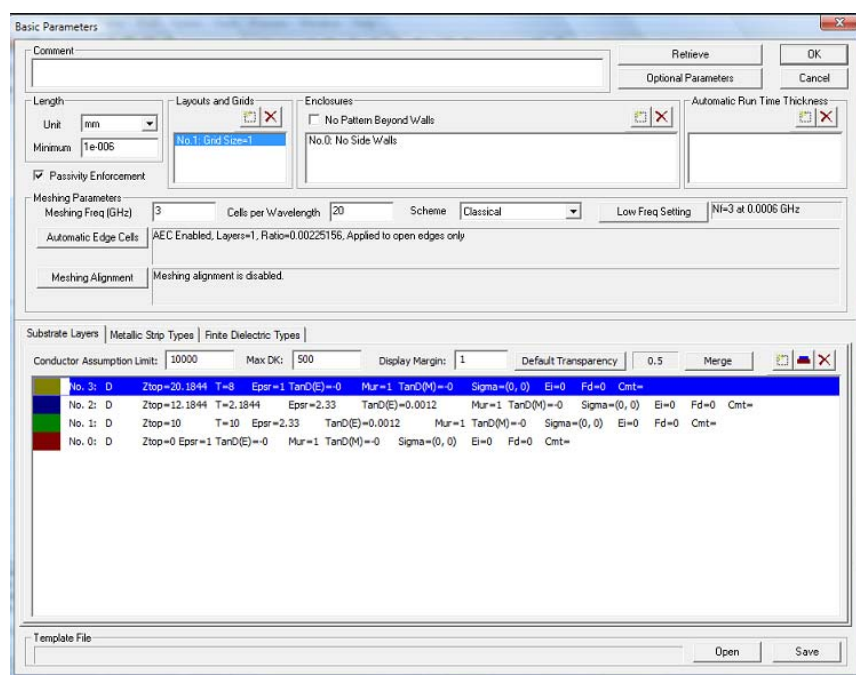

Fig. 26.1: Basic parameter after adding air as substrate layer
>> Click OK (to return to the Basic parameters window, Fig. 26.1 below)
- >> Basic parameters (refer to Fig. 26.1 for Basic Parameter Window)
- >> Click OK (to return to the Basic parameters window, Fig. 26.1 below)